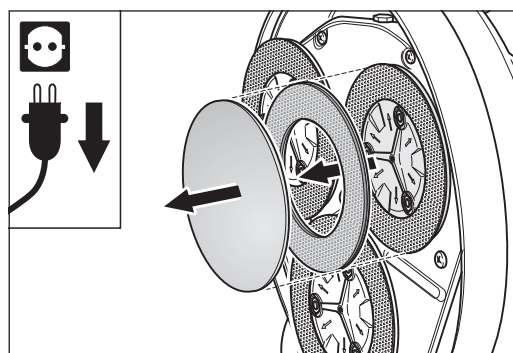
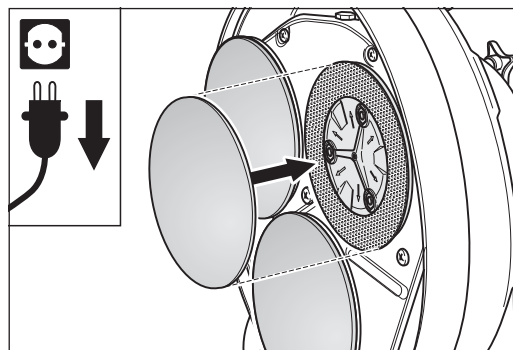
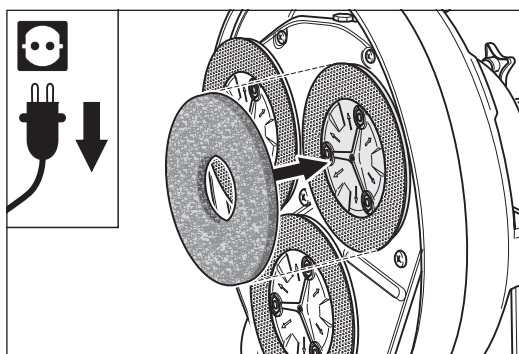

Fig. 32 Remove the sanding discs and the flexible Velcro rings.
Fig. 33 Place the sanding discs directly on the sanding plates.
Fig. 34 Place the normal pads directly on the sanding plates.
- 5 Now place the new sanding disc in the centre of the flexible Velcro ring and press it in place. For increased sanding depth, place the sanding discs directly on the sanding plates (fig. 32, fig. 33).
- 4 Remove the three sanding discs and flexible Velcro rings (fig. 32) and replace them by normal pads (fig. 34).
- 4 Remove the three sanding discs and flexible Velcro rings (fig. 32) and replace them by pads.